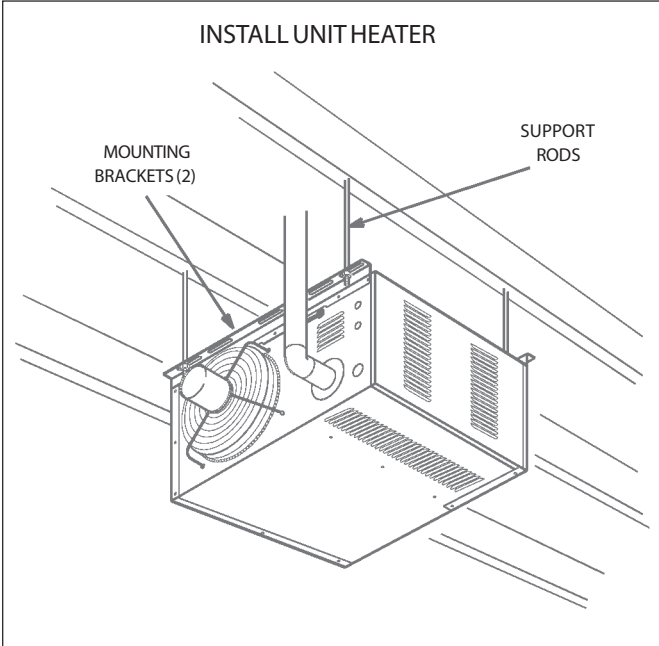

FIGURE 1
Unit is shipped ready for installation. Unit may be installed as shown in figure 1 or inverted 180° depending on desired location as governed by clearances, vent connection, air direction, gas supply, electrical supply and service accessibility.
- 5. To support unit, secure mounting bracket to ceiling joist or truss. Unit may also hang on rods as shown in figure 1.